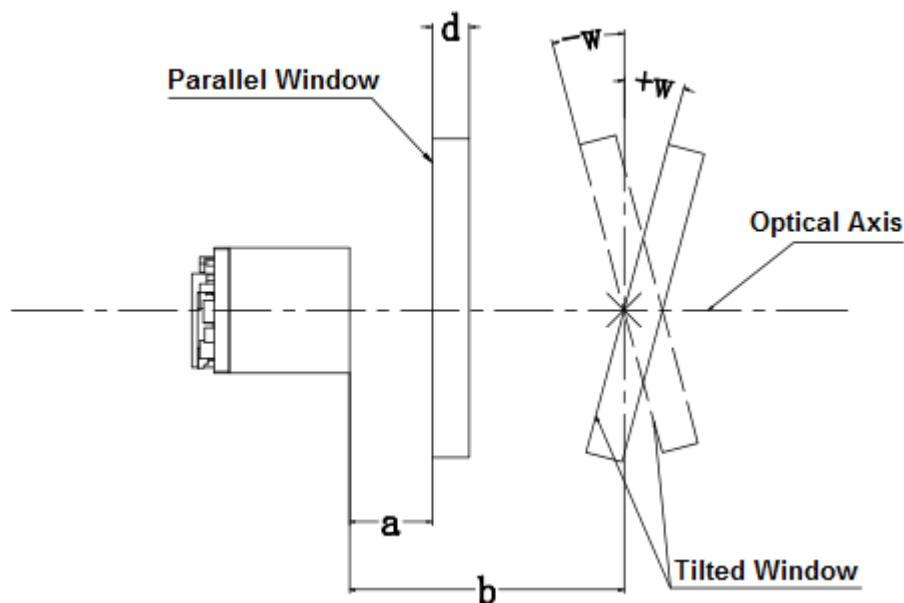

Figure 2-2
- **Parallel window** – Primary option for imager engines. The following window distance requirements should be satisfied: The maximum distance is measured from the front of the engine housing to the furthest surface of the window. In order to reach better reading performance, the distance from the front of the engine housing to the nearest surface of the window should not exceed **a** ( $a=0.1\text{mm}$ ) and the distance from the front of the engine housing to the furthest surface of the window should not exceed **a+d** ( $a=0.1\text{mm}$ ,  $d=2\text{mm}$ ), as shown in **Figure 2-2**.